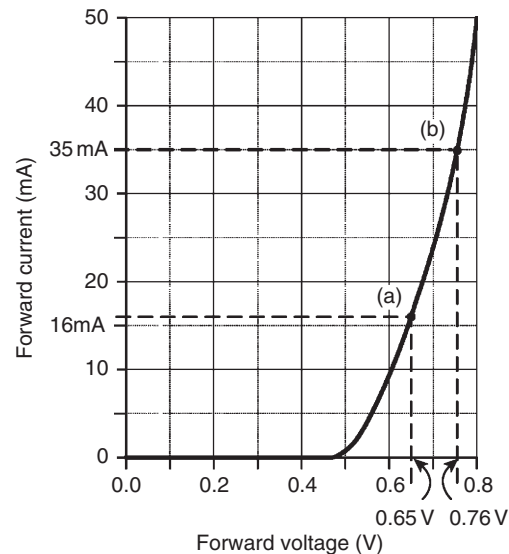

Figure 11.12
The  $I/V$  characteristic is shown in Fig. 11.12. Since the device begins to conduct when a potential of approximately 0.6 V is applied to it we can infer that **the semiconductor material is silicon** rather than germanium.
**Problem 6.** For the characteristic of Fig. 11.12, determine for the device (a) the forward current when the forward voltage is 0.65 V and (b) the forward voltage when the forward current is 35 mA.
- (a) From Fig. 11.12, when the forward voltage is 0.65 V, **the forward current = 16 mA**